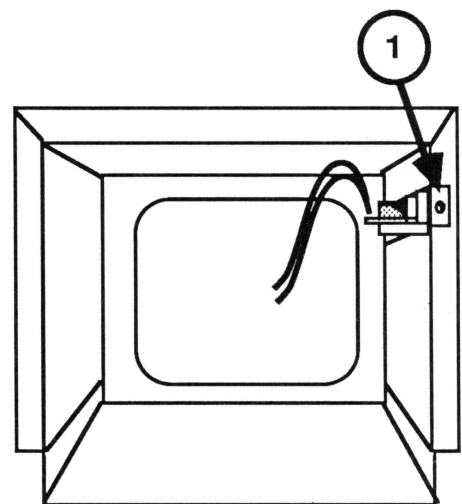

FIGURE 4
6. **NEVER TOUCH THE ANODE.** Normally the anode has a connector (Figure 4, #2) plugged into it, but when a CRT is replaced, this connector is removed, exposing the anode. The anode can maintain a charge of several thousand volts (even after the power is off).